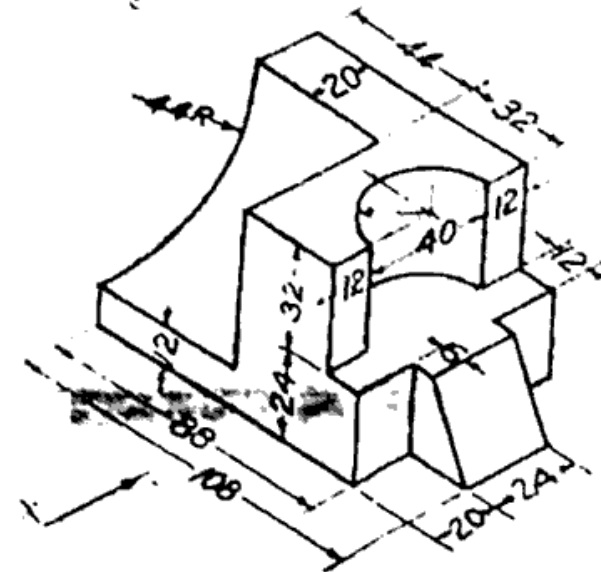

Figure 1
6. The pictorial view of a component is shown in figure 1. Draw the following views.